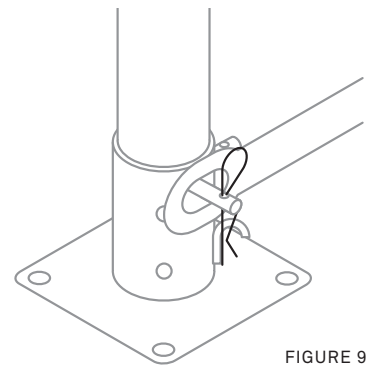

FIGURE 9
11. Slide the tubes of the base frame over the horizontal rod of the base plate. Then place the R-pins as illustrated in figure 9 to prevent the base frame from sliding off the rod.